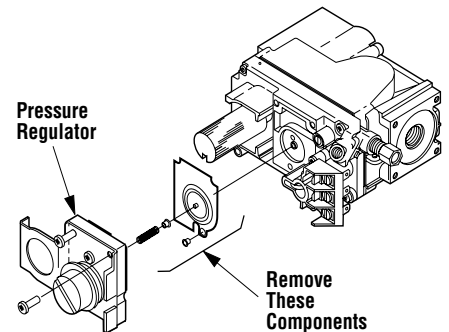

Figure 24
Step 4. SIT Systems - Refer to **Figure 24** and the instructions provided with the kit. Using a Torx T20, remove and discard the three pressure regulator mounting screws. Remove the pressure regulator, spring, poppet, diaphragm and bushing. **Discard all removed components.**